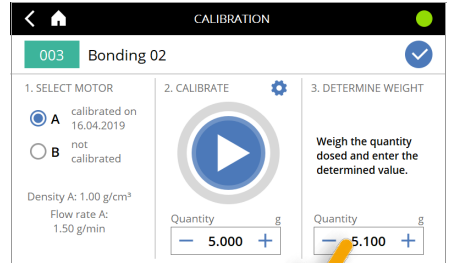

Fig. 45
- ▶ Enter the measured **actual quantity** (Fig. 45).